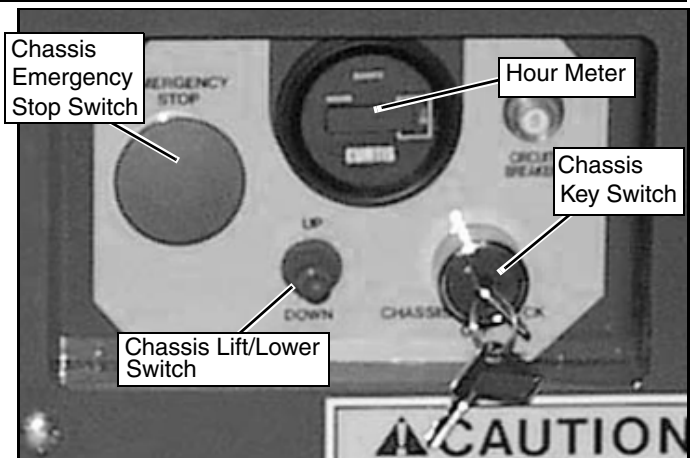

Figure 2: Chassis, Left Side
15. Open the Emergency Lowering Valve (See Figure 2) by pushing in on the knob and turning $\frac{1}{4}$ turn counter-clockwise to check for proper operation. When the platform is lowered, close the valve by pushing in and turning the knob $\frac{1}{4}$ turn clockwise until the detent engages.